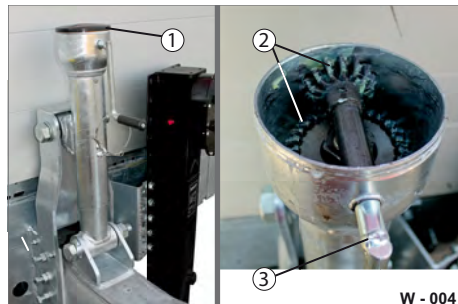

Fig. 4 Lubricating the drawbar height adjust.
- ▶ Remove the cover (Fig. 4/1).
- ▶ Lubricate the gears (Fig. 4/2) with grease.
- ▶ Use the crank (Fig. 4/3) to crank the height adjustment up and down - this distributes the grease.